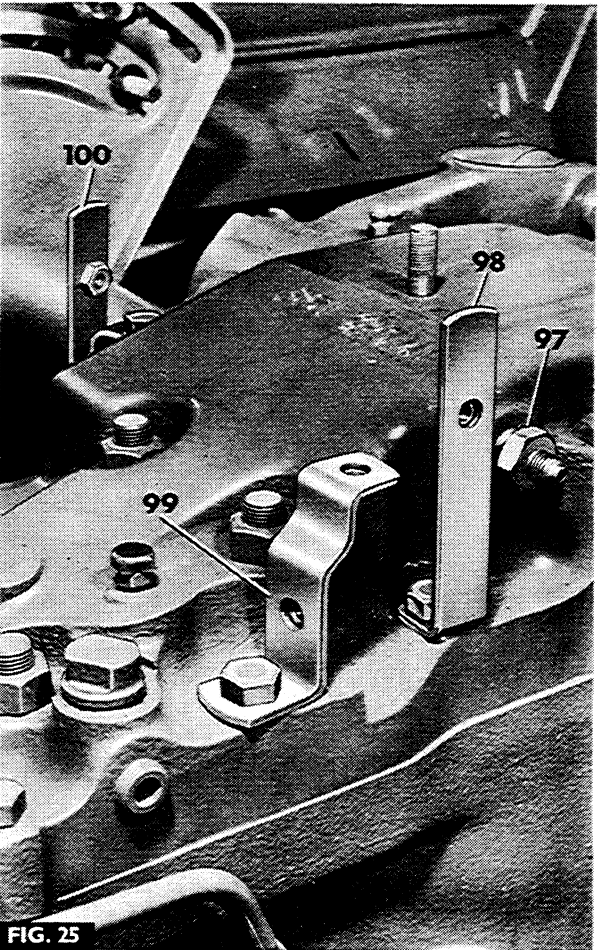

FIG. 25
13. Fig. 25. Remove the Allen plug from the lift cover, just forward of the cross shaft, then fit the union (97) with an 'O' ring.